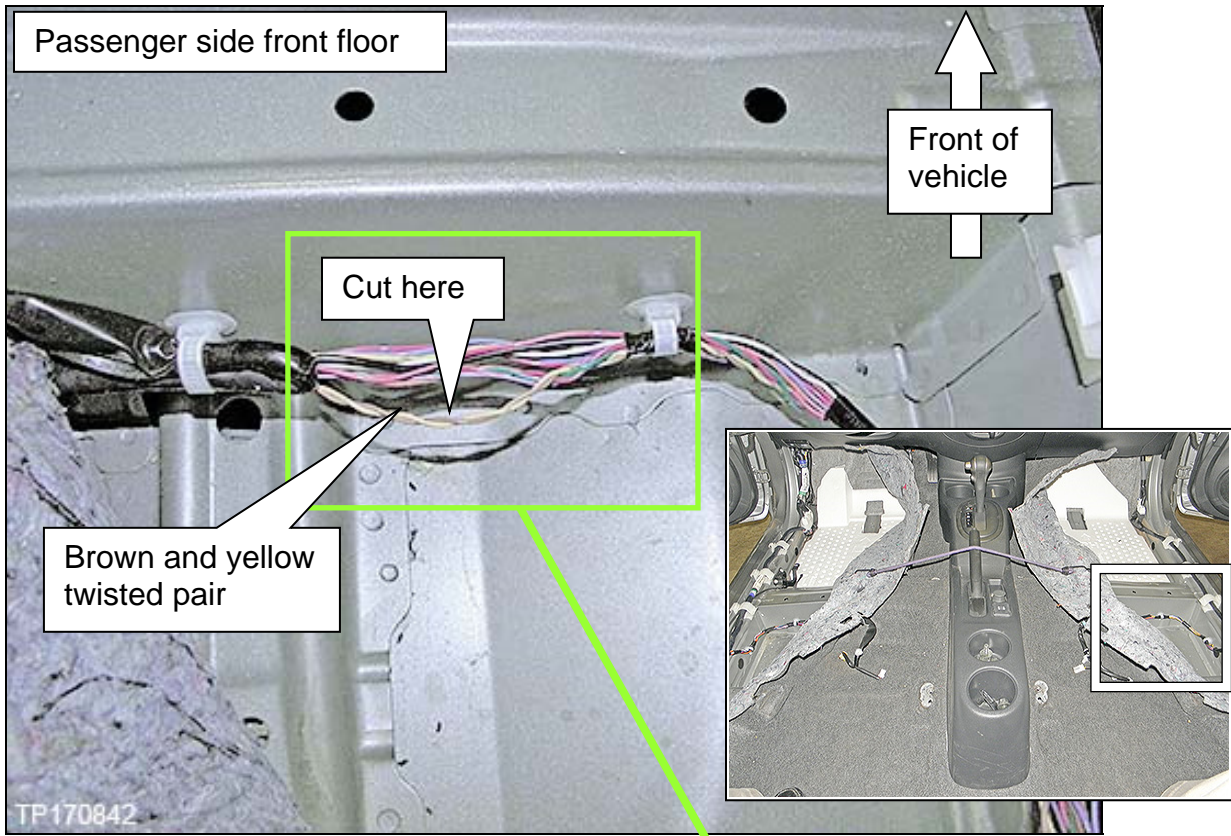

Figure 21
15. Locate the brown and yellow twisted pair (of wires) for the Satellite sensor on passenger side front floor (see Figure 21).
16. Cut through both the brown and yellow twisted pair where shown in Figures 21 and 22.